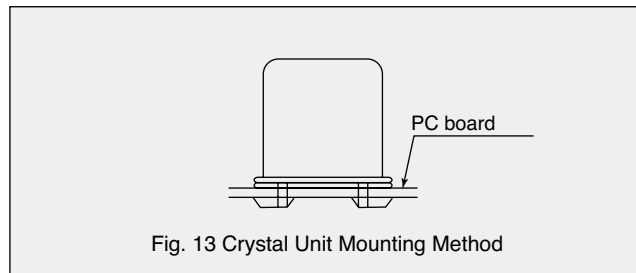

Fig. 13 Crystal Unit Mounting Method
(3) When mounting a lead-mount type crystal unit, we recommend that the unit should make contact with the PC board and be soldered in such a way as to prevent fatigue and breakage of the leads due to mechanical resonance (see Fig. 13).